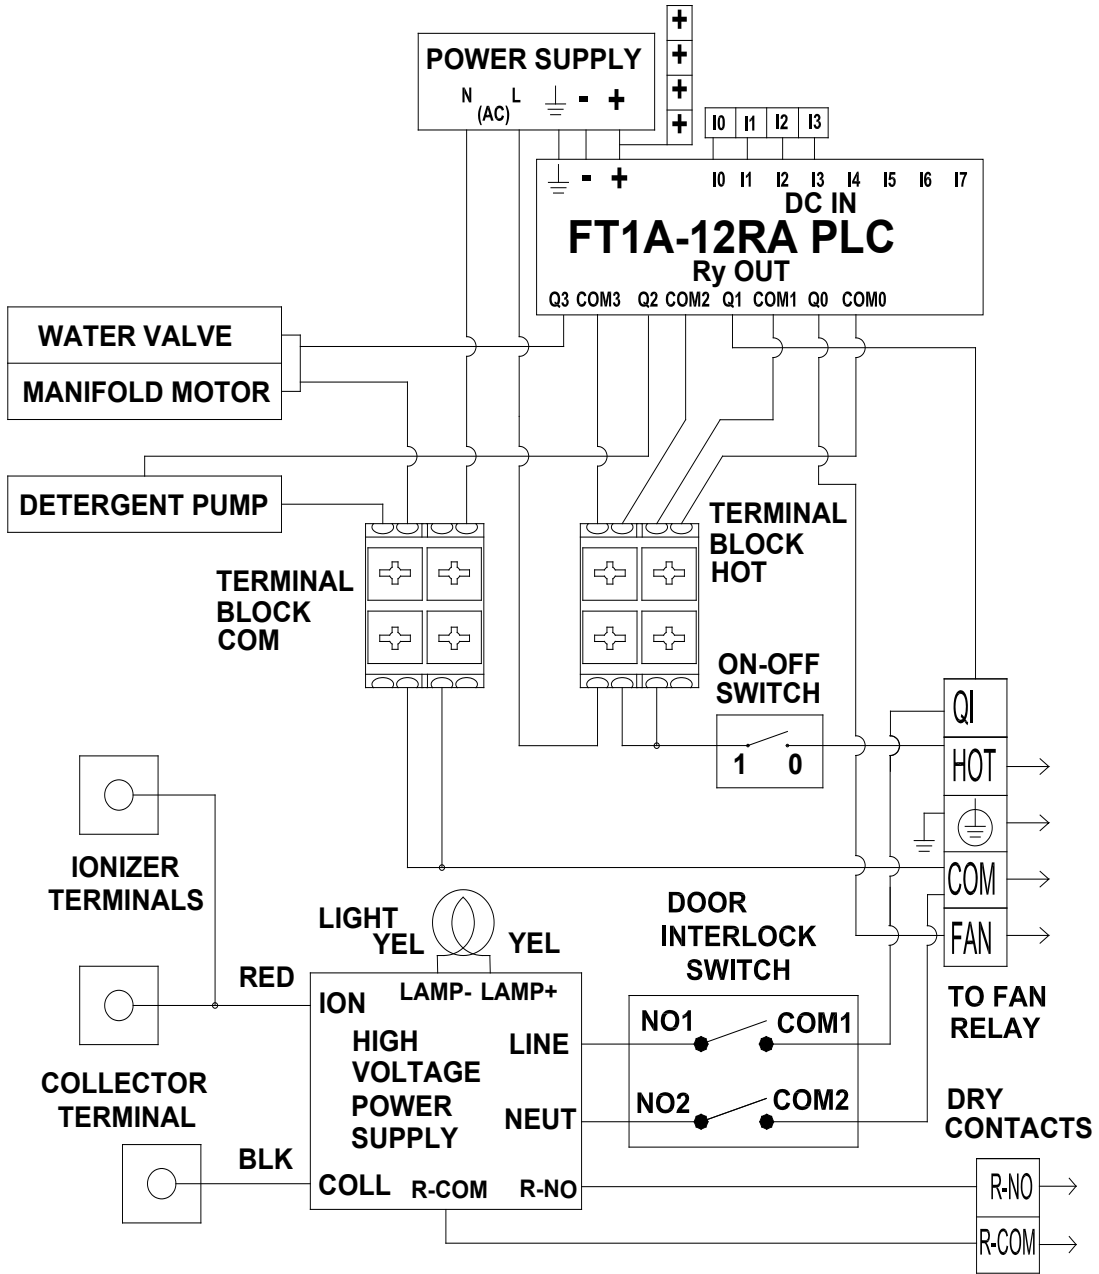

FIGURE 8 – INTERNAL WIRING SCHEMATIC FOR AUTOCLEAN 2000 AND 4000
1. Install the water strainer (supplied) in the hot water line ahead of the water valve. See Fig. 8. The strainer protects the valves and washing jets from clogging.
Check all electrical connections to make certain they are correct and complete. Refer to the hookup diagrams (Figures 8 through 9).
Make sure all wiring is connected properly reference figures 8 and 9.
Be sure the electrical connections have been made properly per Figure 8 & 9.